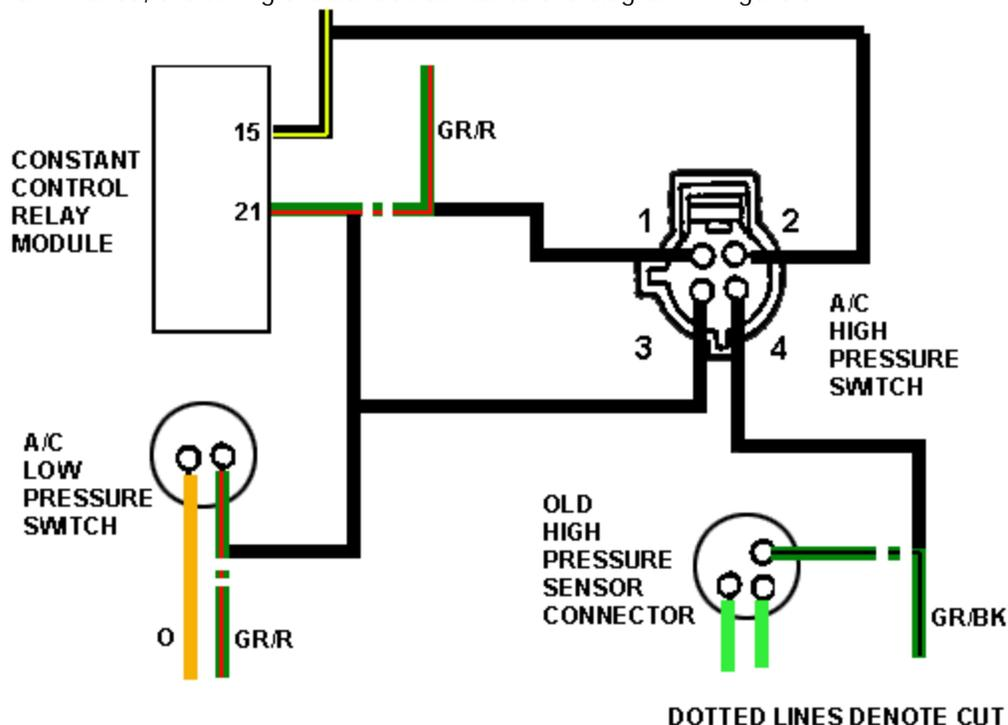

Figure 5 - A/C Circuit Re-wire
8. When finished, the wiring should look similar to the diagram in Figure 5.